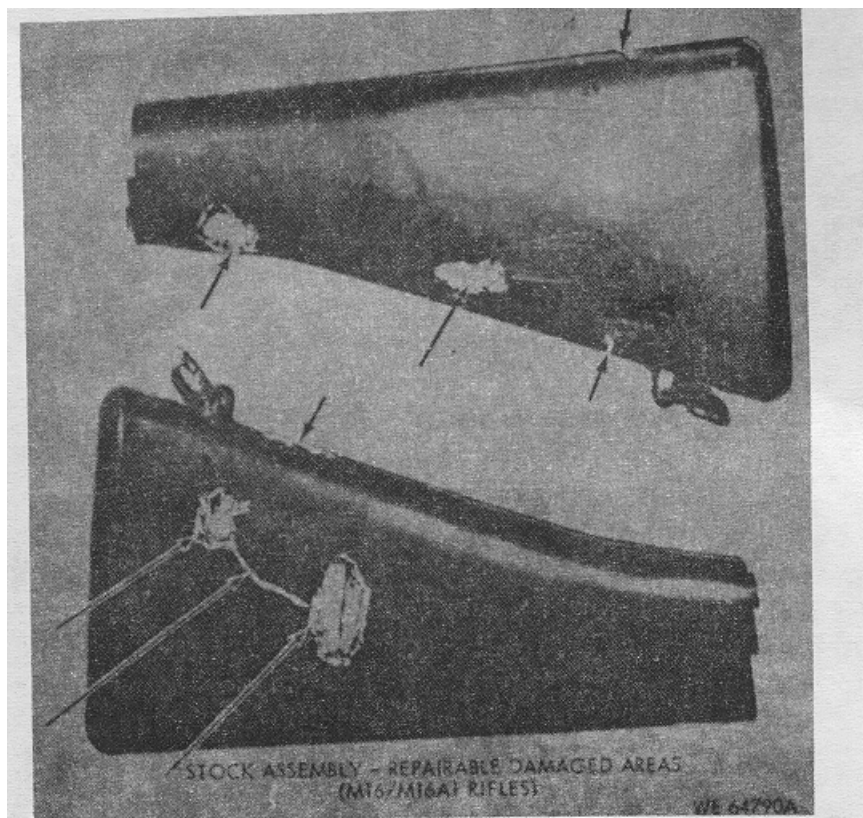

Figure 3-15. Repairable fiber glass/plastic stock assemblies.
- Stock assemblies that contain gouges, dents, punctures and crushed areas (fig. 3-15) can be repaired using the procedures indicated below: